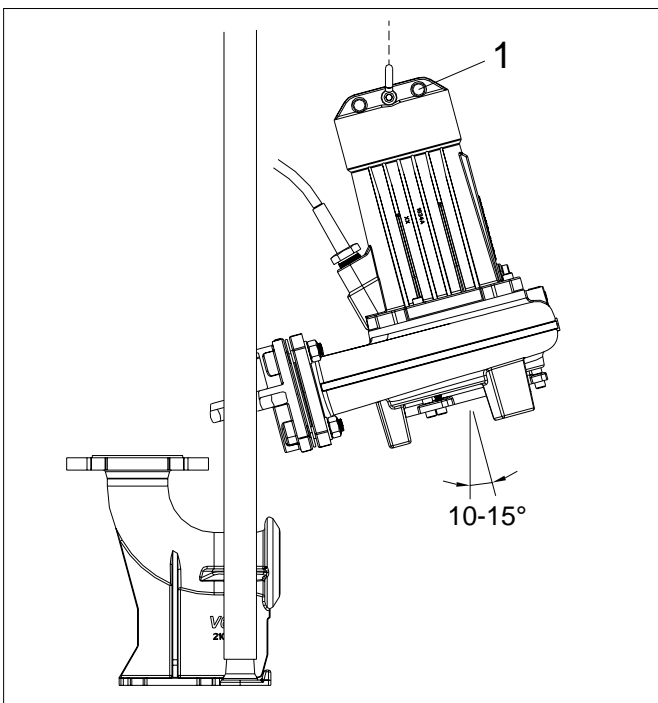

Fig. 6.3
- The installation angle should be : 10-15° (see Fig. 6.3). If necessary, this angle can be changed by alteration of the position of the lifting hook on the suspension bracket on top of the motor (pos. 1).
It is good practice, whenever possible to keep the motorhousing completely under water. For interrupted level controlled operation, less cooling is required. We recommend not to run the pump with the water level below the top of the volute in order to avoid air being drawn in (see Hmin.2 Fig. 6.3). Air in the discharge pipes might impair performance.